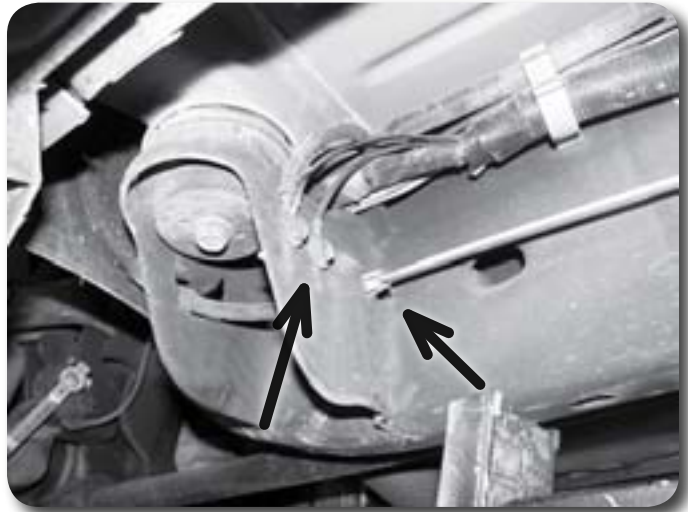

Figure 13
17. Remove the front half of the parking brake cable from the body mount. Compress the retaining tabs with pliers and push the cable through the hole **Figure 13**.